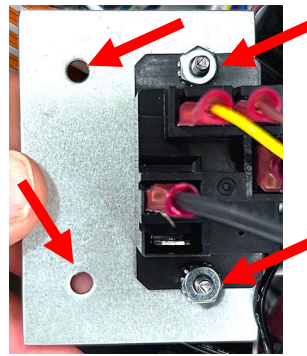

Figure 26
18. On gas fryers, using the supplied plate, attach the relay to the plate. Attach to the control box using the existing holes as shown (see Figure 26 & 26A).